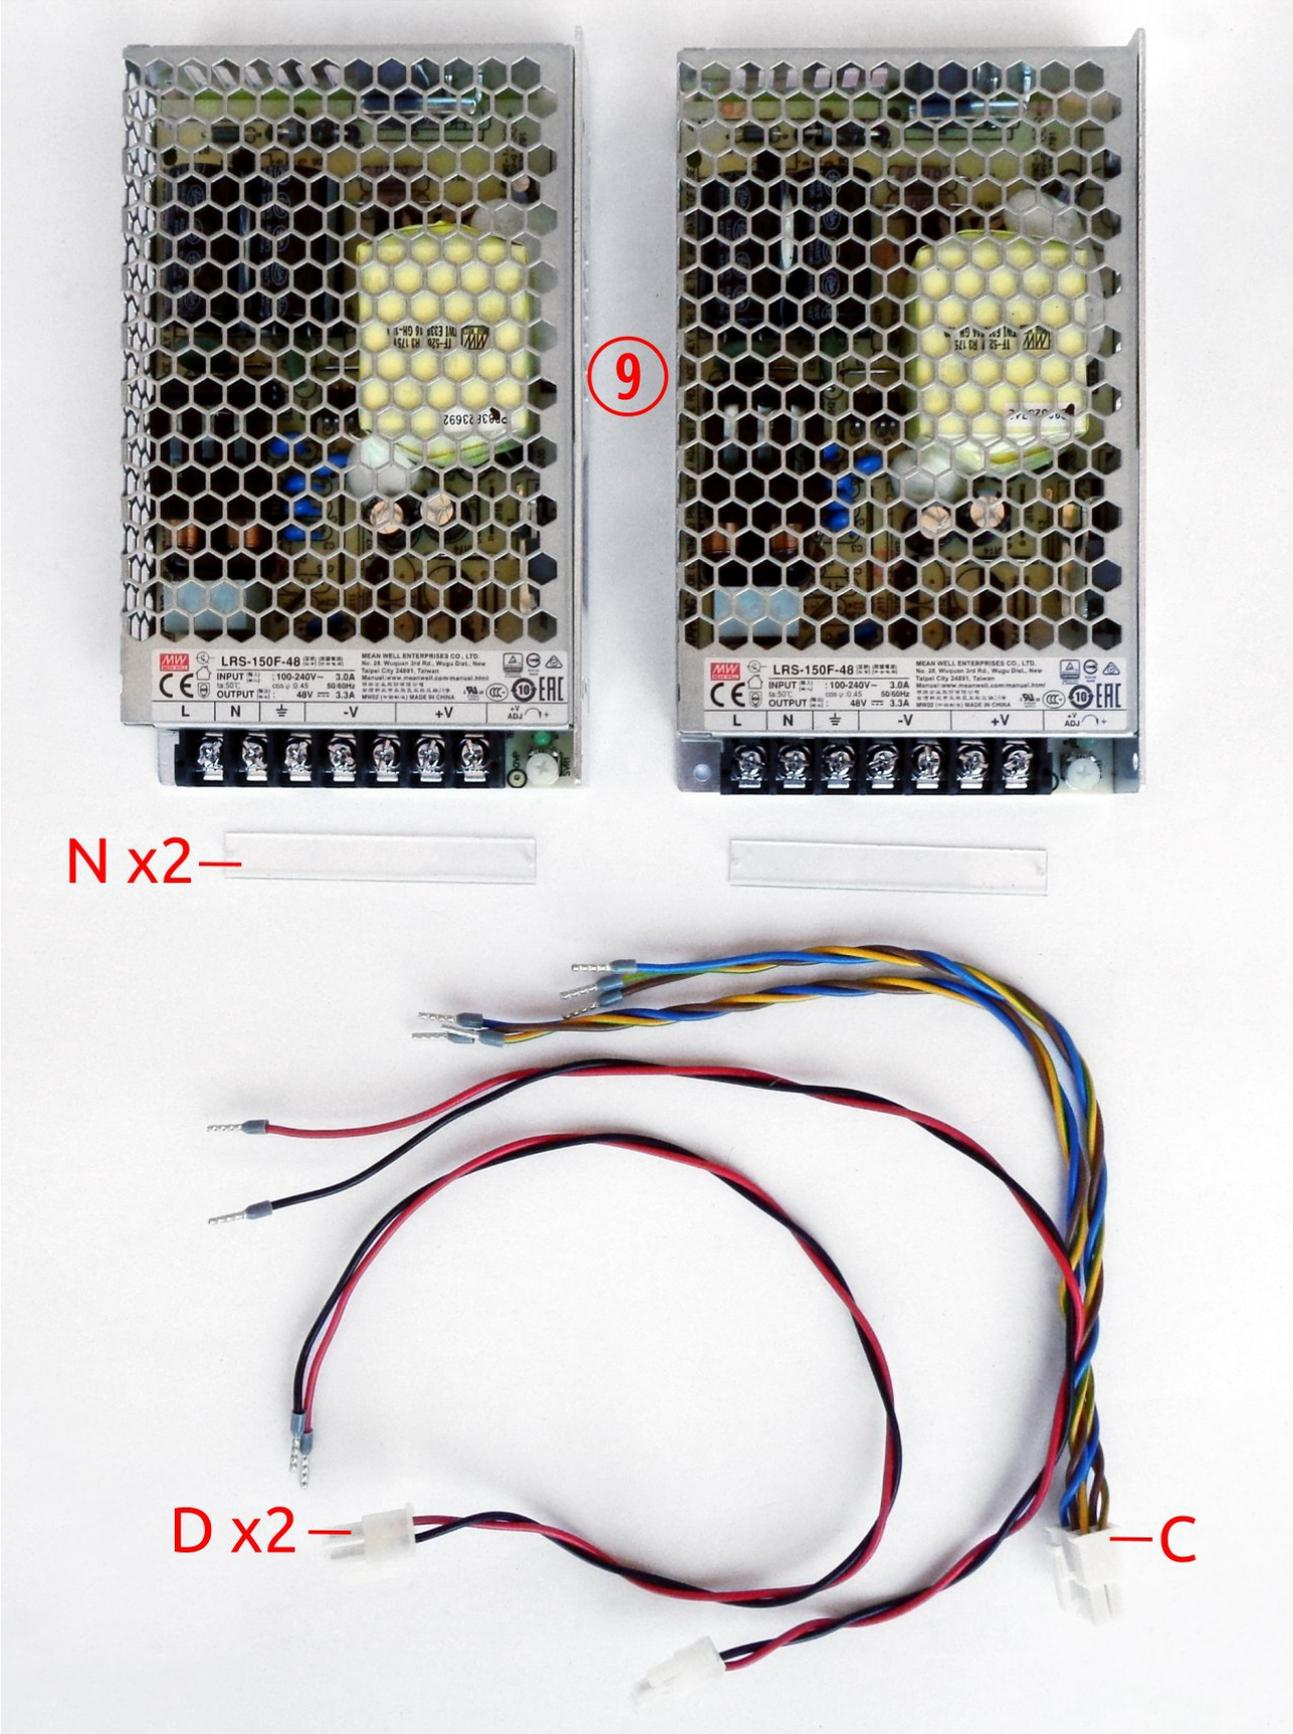
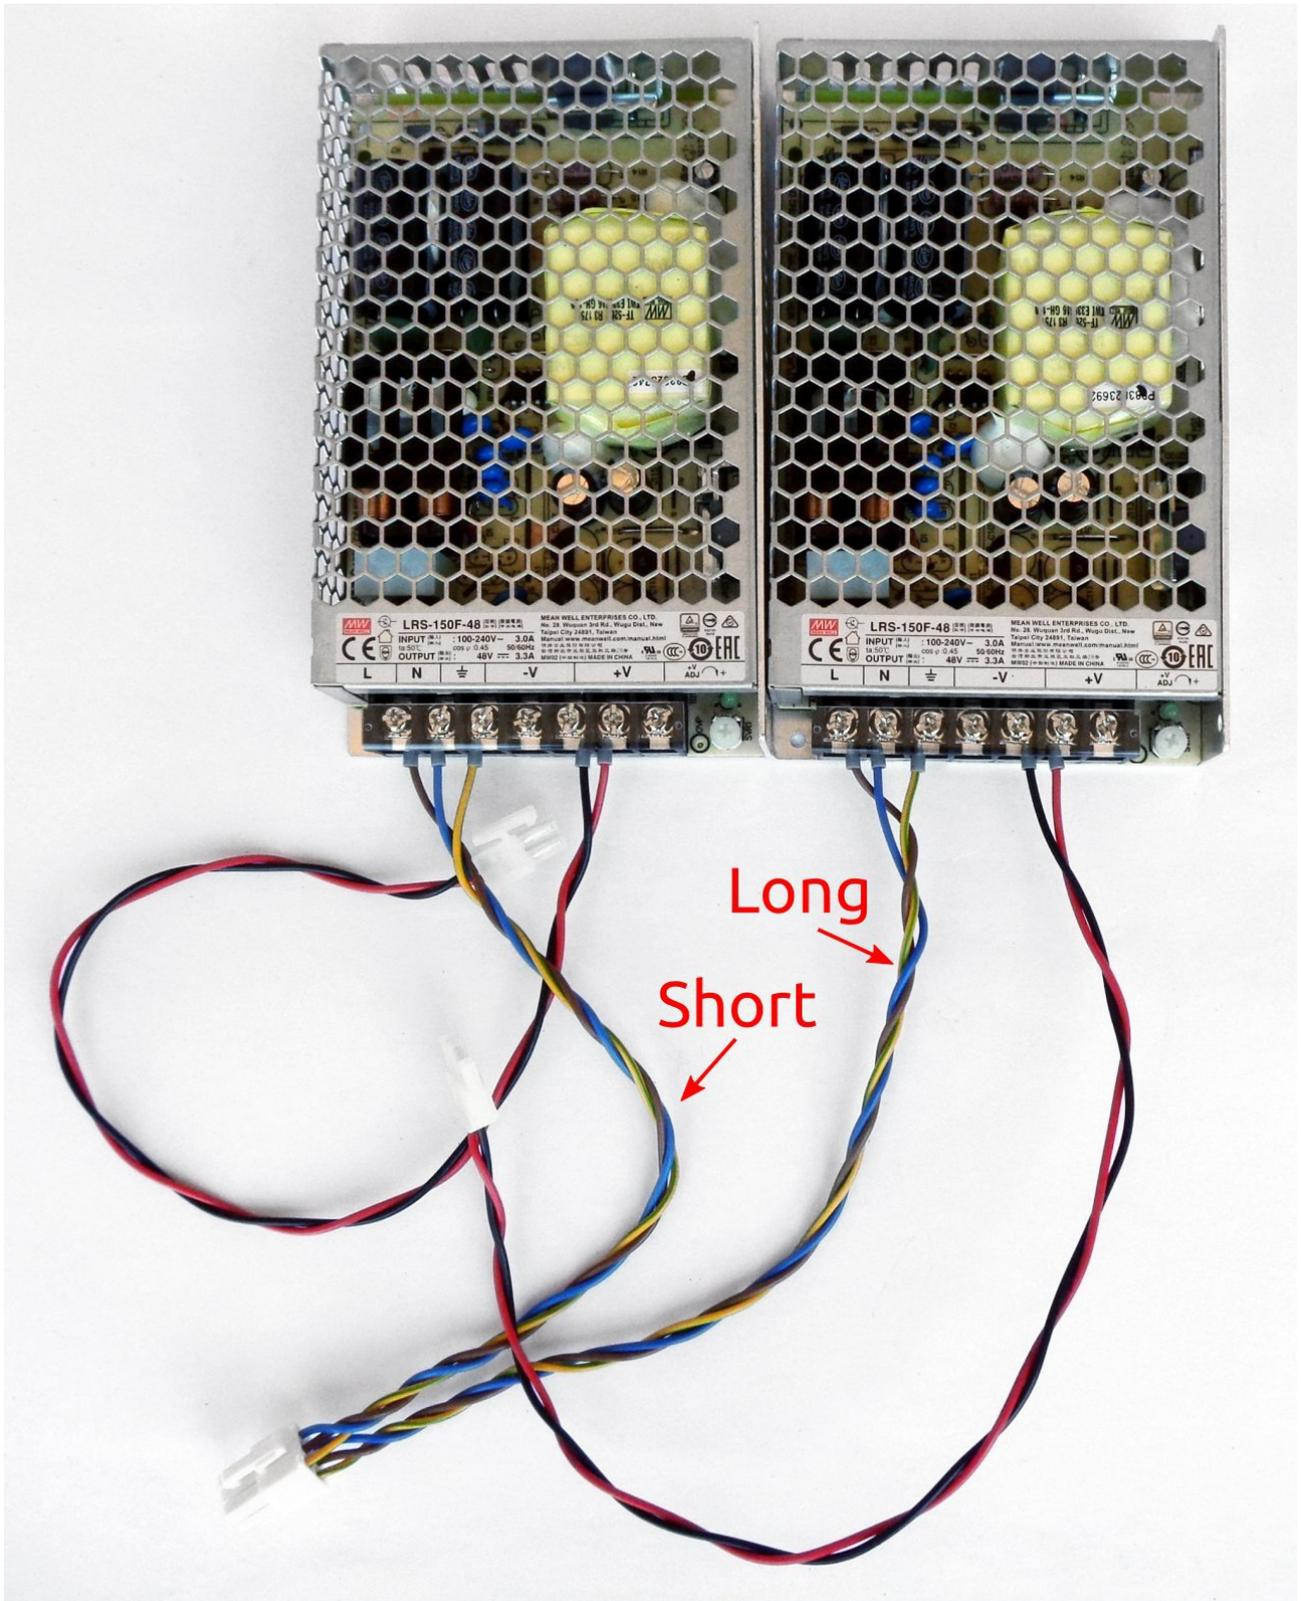
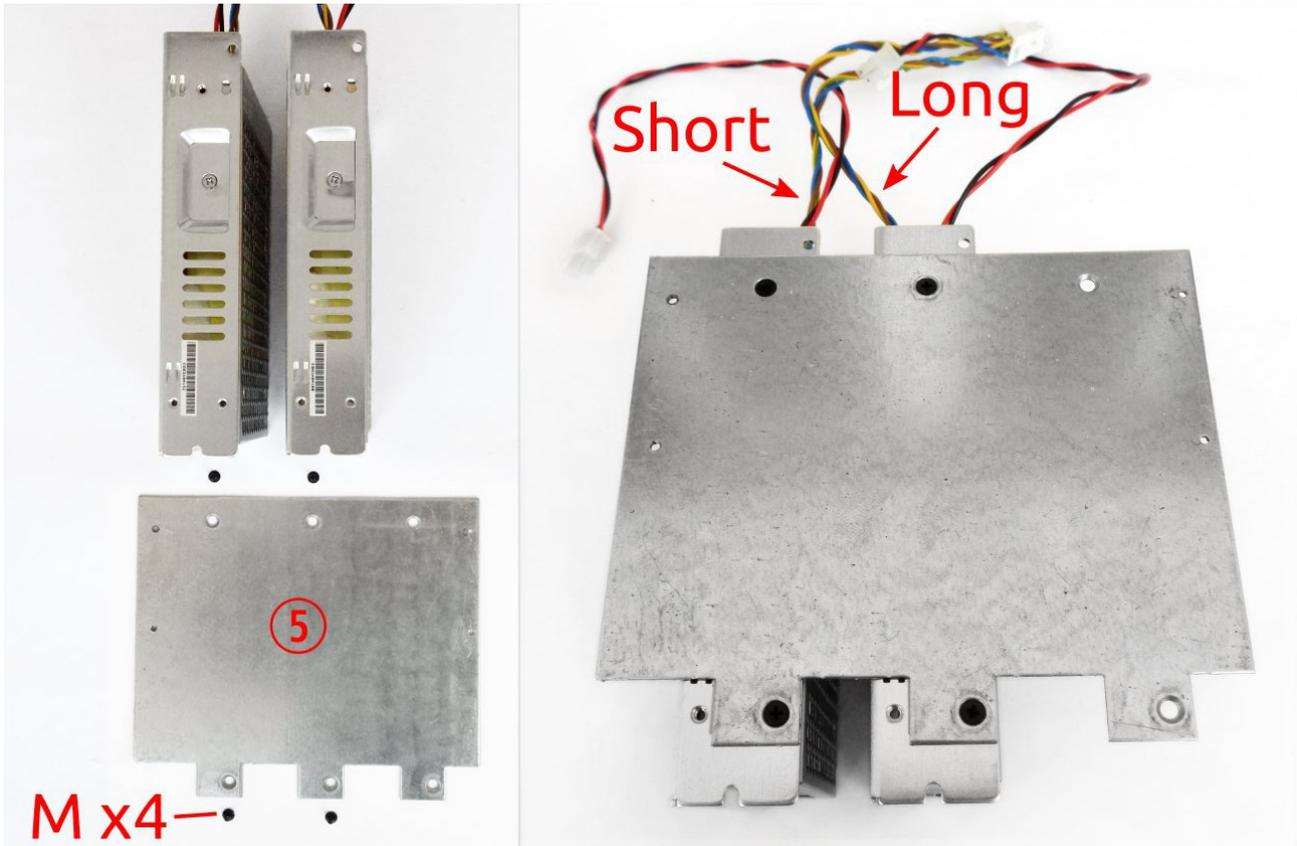

Fig. 31: Mean Well AC/DC converters and related wiring
Fig. 32: Mean Well AC/DC converters with installed terminal covers and cables
Fig. 33: Mean Well AC/DC converters with mounting frame
The power modules (item 8, Fig. 2) require 48 VDC. Mean Well AC/DC converters are used for this purpose (item 9, Fig. 2). Fig. 31 shows the connecting cables and terminal covers. Note that the dual AC power cable has two arms of different lengths (Fig. 32). The shorter cable goes to the Mean Well converter that is closer to the AUX-PS module as shown in Fig. 33.
First, carefully connect the cables as shown in Fig. 32 taking note of the wire colors. When the cables are connected, the terminal covers (item N, Fig. 4) can be mounted.
The Mean Well converters are mounted on the top cover. The mounting frame (item 5) is used for this. Each converter is attached to the mounting frame with two screws (item M, Fig. 4) as shown in Fig. 33. As mentioned above, the converter with the shorter AC power cable should be mounted to the far left position.